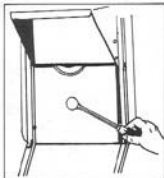

Fig. 1
- Remove one plug from Grinder/Chipper Main Frame as shown in Figure 1